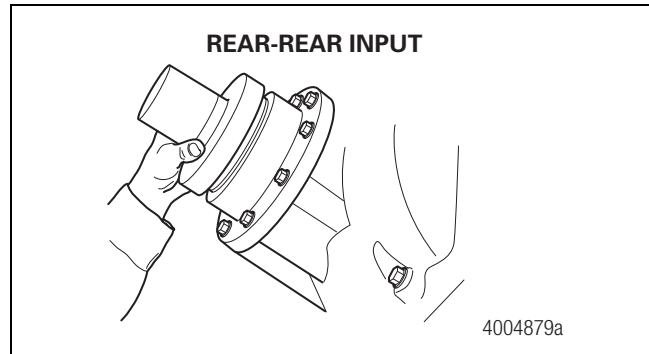

Figure 5.11
4. Install the rear-rear axle input seal. Hold the seal only on the outer diameter. Position the seal into the seal driver and align it with the rear-rear axle input bearing cage. Use a dead-blow hammer and the appropriate driver to install the seal into the bearing cage. Figure 5.11.